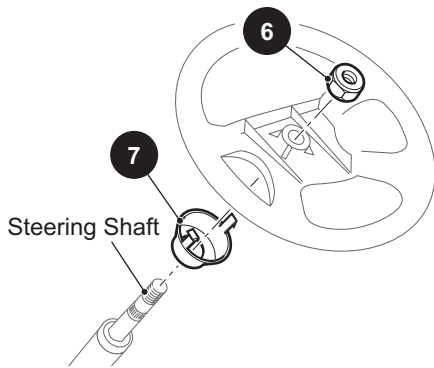

Figure 21 Steering Wheel Replacement
- Loosen the steering wheel retaining nut (6) two to three turns (Figure 21). **Do not remove the nut at this time.**